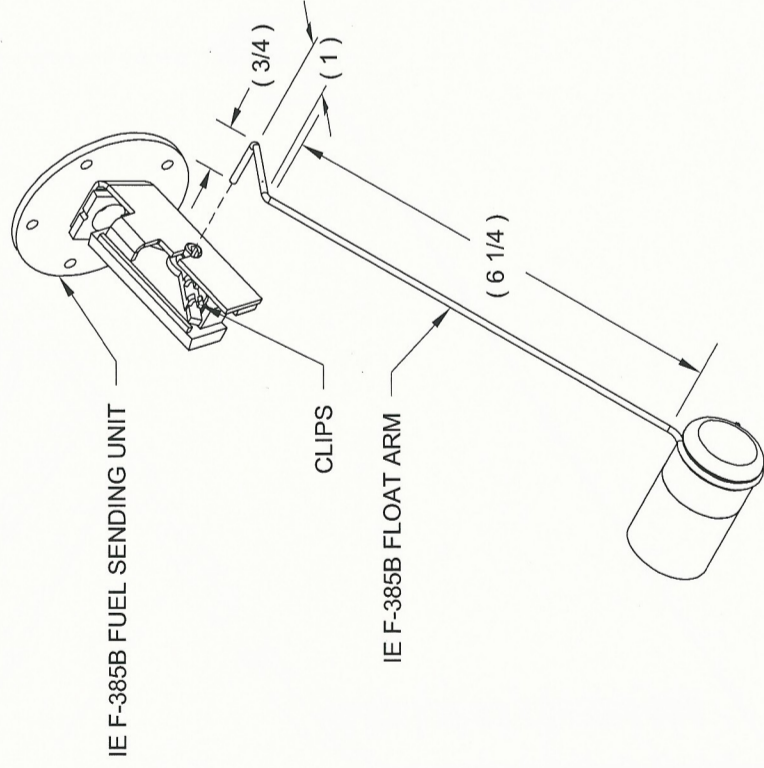

FIGURE 2: BENDING THE FLOAT ARM
Step 3: Use a vise to bend the IE F-385B Float Arm per the full scale template given at the bottom of this page. Insert the float arm into the IE F-385B Fuel Sending Unit. See Figure 2. Snap the float arm into the clips on the fuel sending unit.